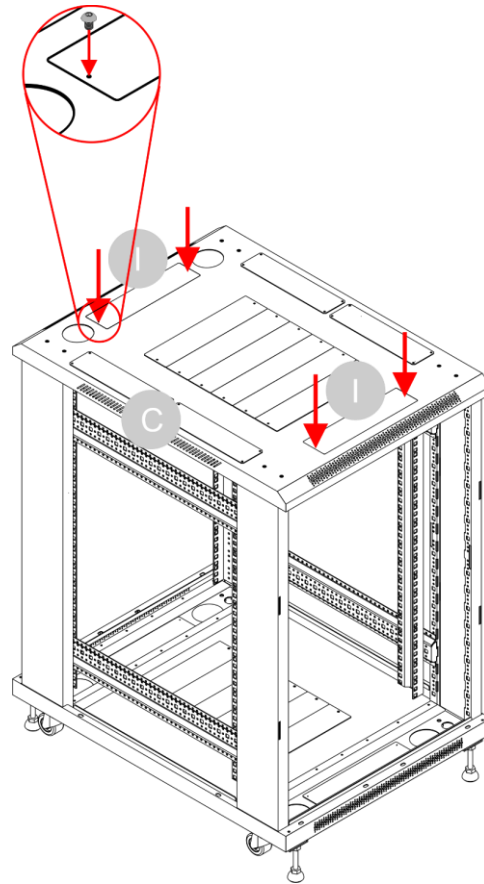

Fig. 34
18) Attach the 2 **metal plates (I)** to the **frames (B)** with 2 **screws (O)** per plate, as shown in Fig. 34.